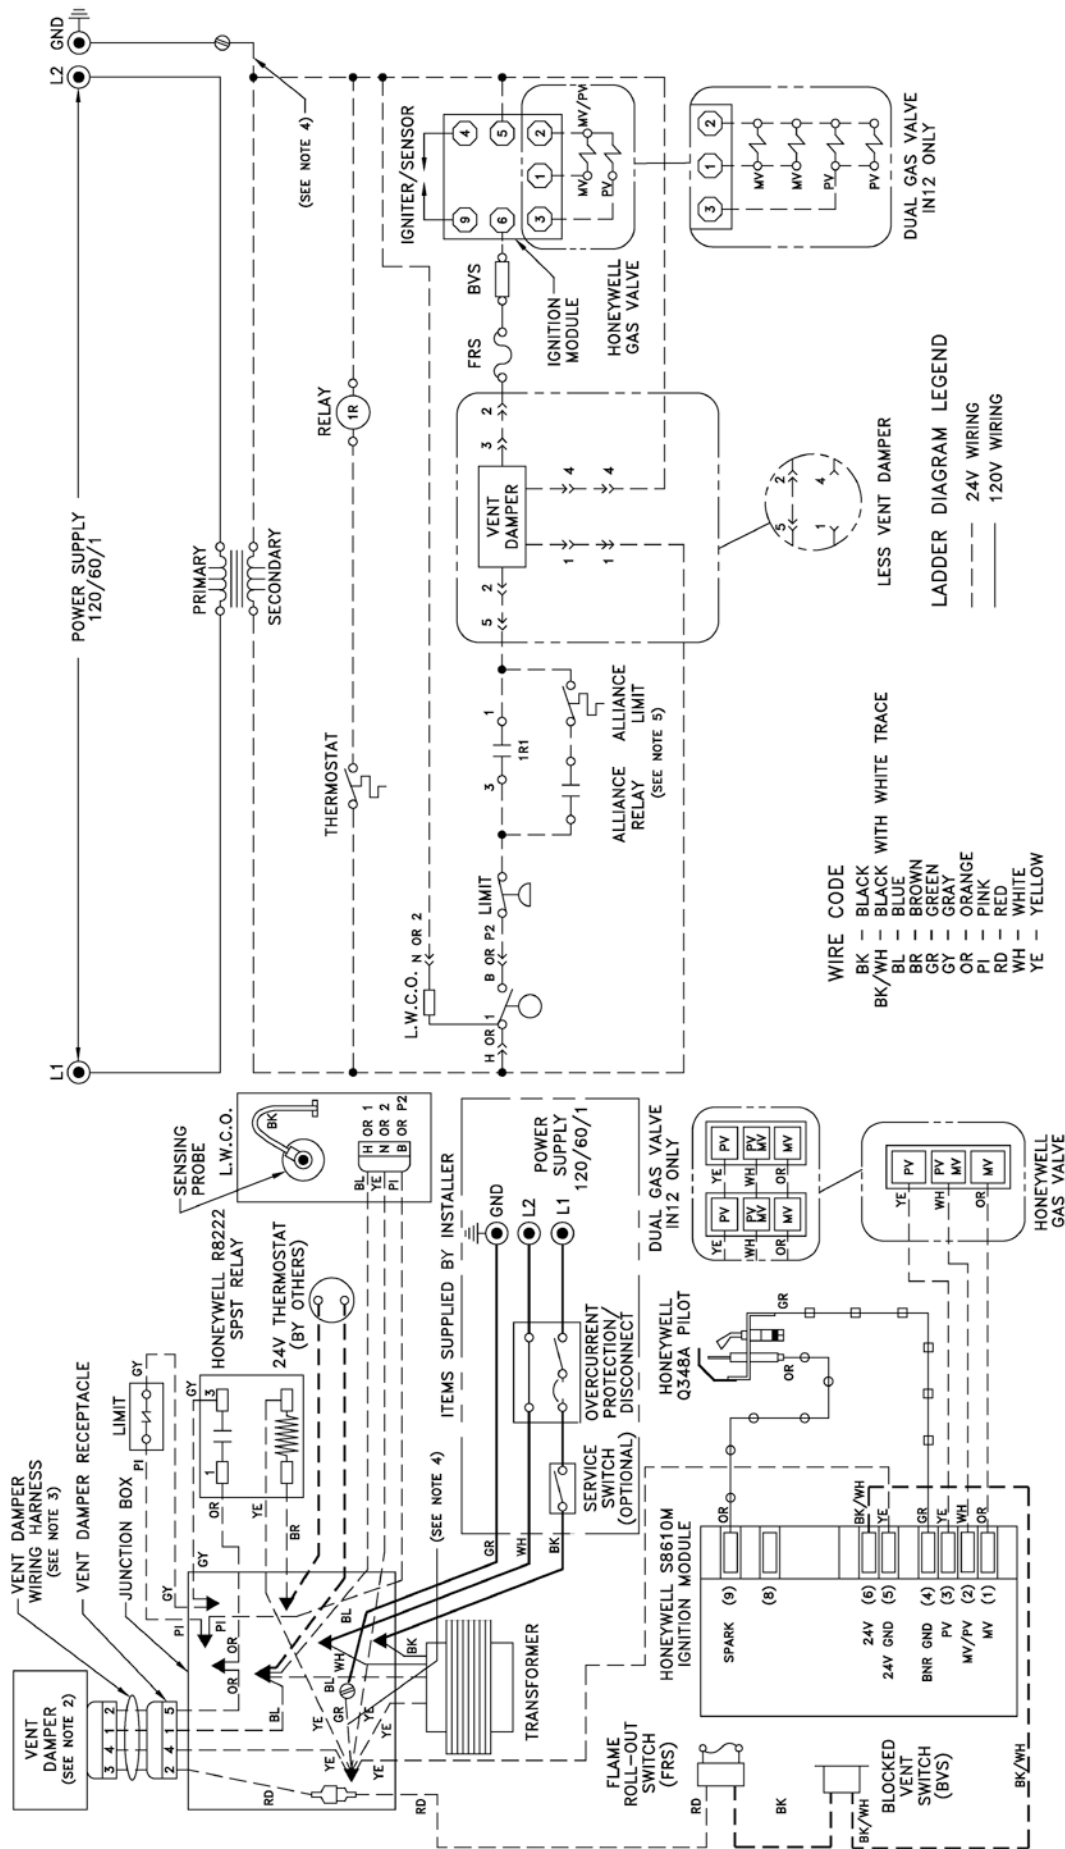

Figure 36: Wiring Diagrams, Steam, Intermittent Ignition (EI), Probe Low Water Cutoff
I. Steam Boiler with Intermittent Ignition (EI) and Probe Low Water Cutoff. See Figure 36.